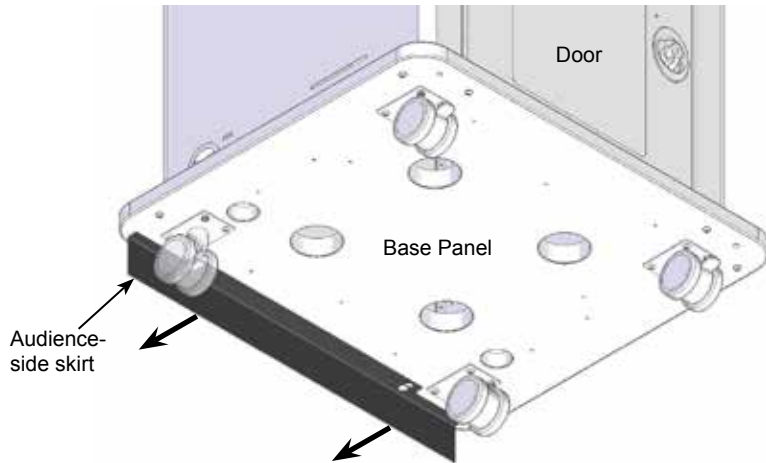

Figure 1A
1. Align the two audience-side skirt keyhole slots with the two pre-installed screws. **Figure 1A.**